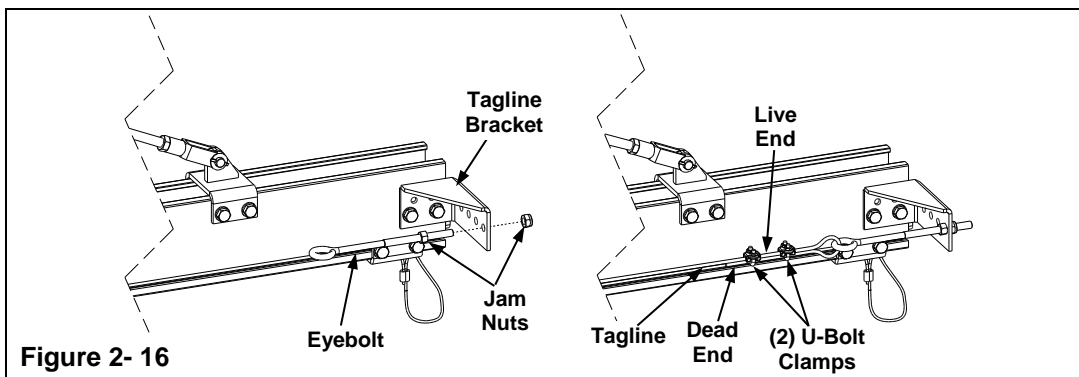

Figure 2-16
- Step 5. Insert an eyebolt through the tagline bracket and tighten nut. See Figure 2-16
- Step 7. Loop one end of the cable through an eyebolt and overlap a minimum of 6 in. (152.4mm). See Figure 2-16.
- Step 8. Use (2) two cable U-bolt clamps to secure cable. Apply U-bolts over dead end of tagline and have the live end of tagline rest in the saddles. Use torque wrench to tighten evenly, alternating from one nut to the other until reaching the recommended torque of 4.5 ft-lbf (6.1Nm). See Figure 2-16.